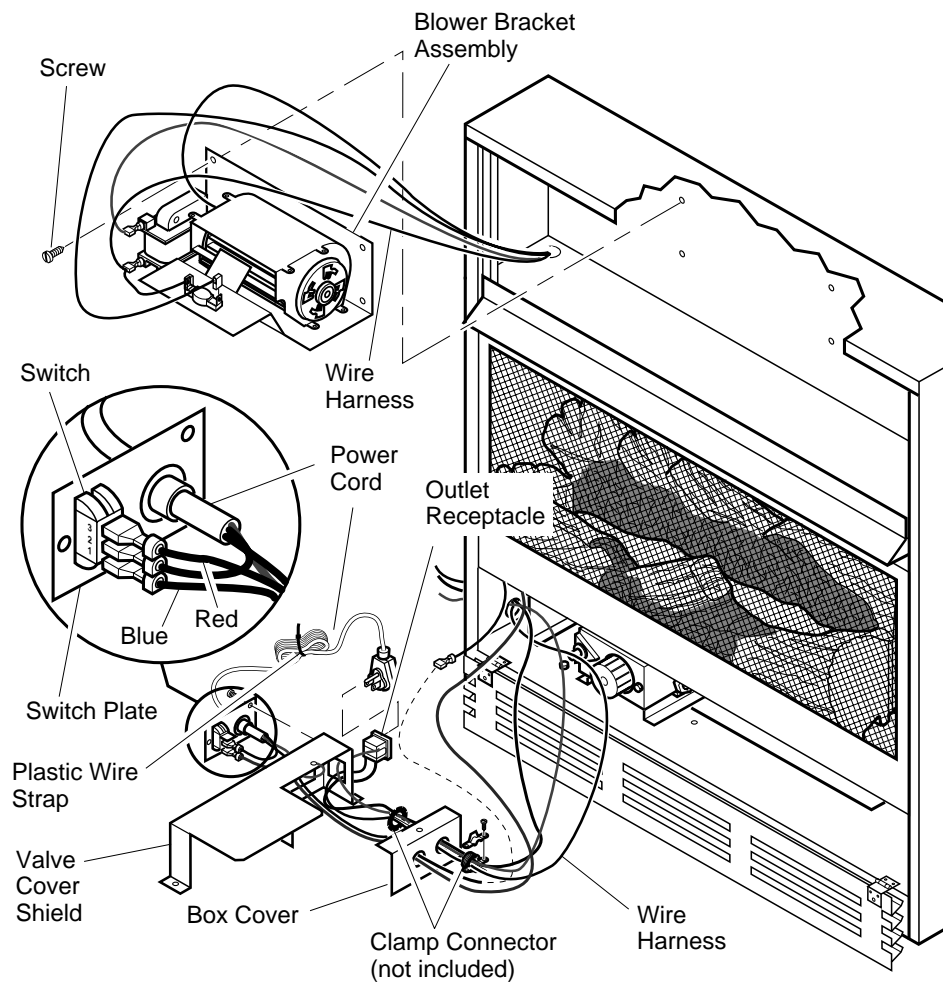

Figure 21 - Installing Blower Bracket Assembly
5. Plug power cord to the outlet receptacle (not provided) as shown in figure 21. Wind the extra cable in power cord and tie it up with the plastic wire strap (see Figure 21). Set the cable bundle between the burner bracket and outer casing, away from the burner.